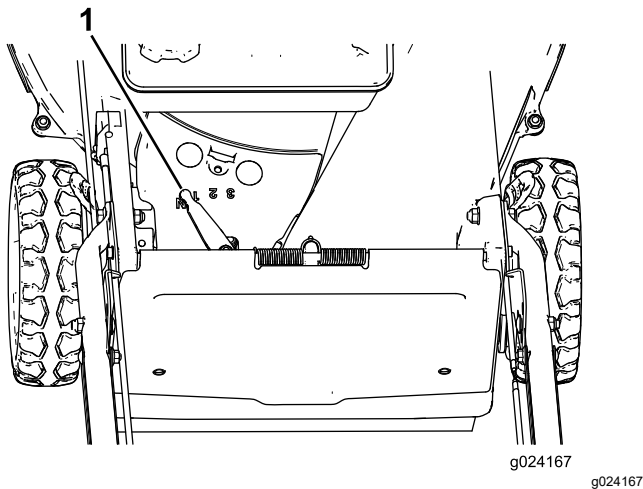

Figure 15
This machine has 3 ground speeds: 1 (slow), 2 (medium), and 3 (fast); it also has a Neutral (N) position. The self-propel-drive lever is located below and behind the fuel tank (Figure 15).